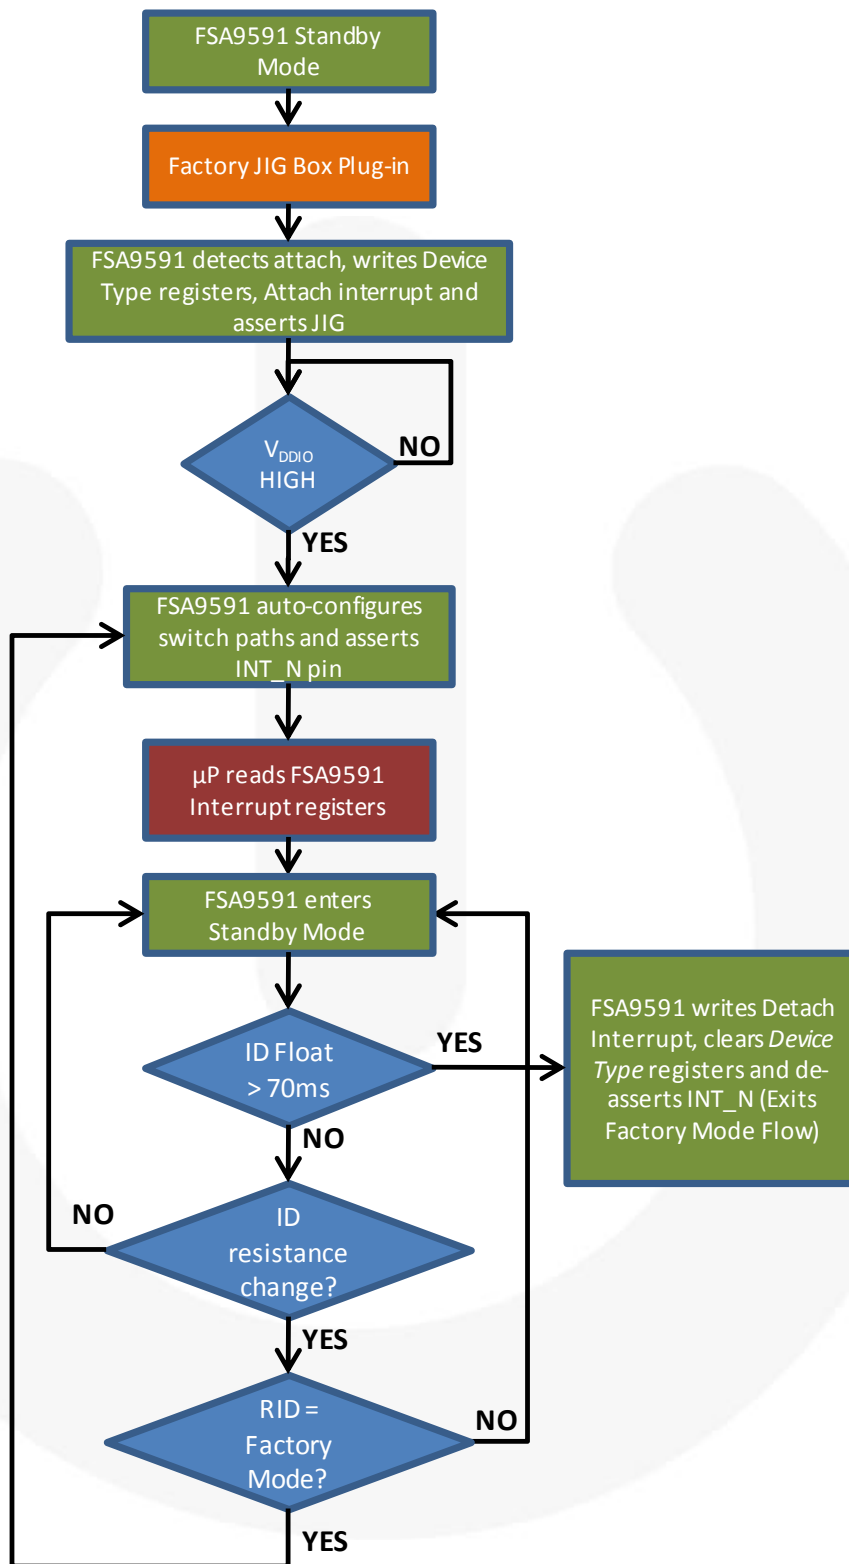

Figure 8. Factory Cable Detection Flow Chart
The FSA9591 detection algorithms monitor both the  $V_{BUS}$  and ID pins of the USB interface. Based on the detection results, multiple registers are updated and the INTB pin is asserted to indicate to the baseband processor that an accessory was detected and to read the registers for the complete information. The detection algorithm allows the application to control the timing of the detection algorithm and the configuration of the internal switches. The flow diagram in Figure 8 shows the operation of the detection algorithm.
7. Factory modes require  $V_{DDIO}$ =HIGH before configuring the switches. Refer to the factory mode flow diagram in Figure 8 for details.